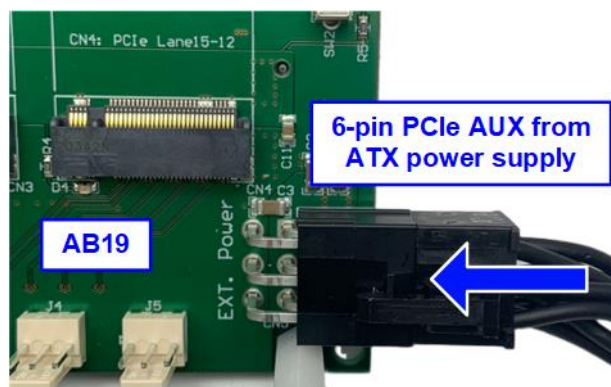

Figure 2-4 Connect 6-Pin PCIe power supply to AB19
- iii) Connect the 6-Pin PCIe AUX from the ATX power supply to AB19-M2PCI as shown in Figure 2-4.